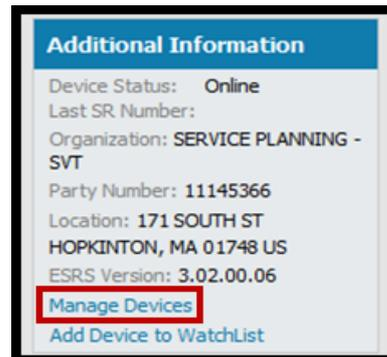

Figure 136 Manage Devices
- From the SRS Portal serial number page, click **Manage Devices**, as shown in Figure 136 on page 115.